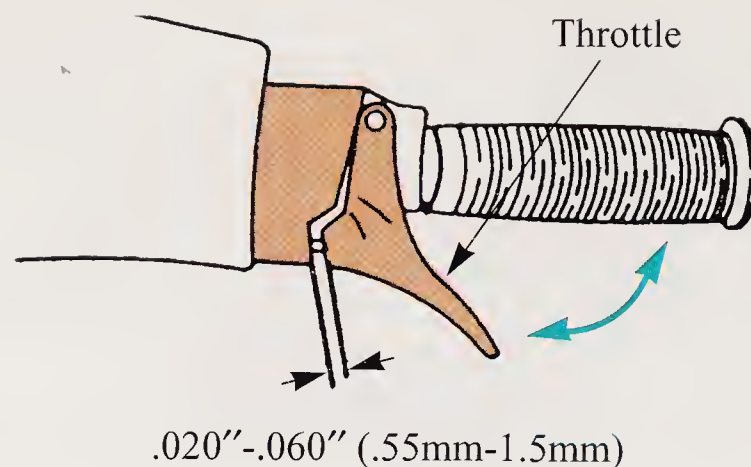

Figure 21-13. The throttle control lever should move freely and not have excessive play. (Polaris)
- **Throttle control.** Check operation of the throttle control lever for binding, rough spots, or excessive play. Adjust if needed. See **Figure 21-13**.